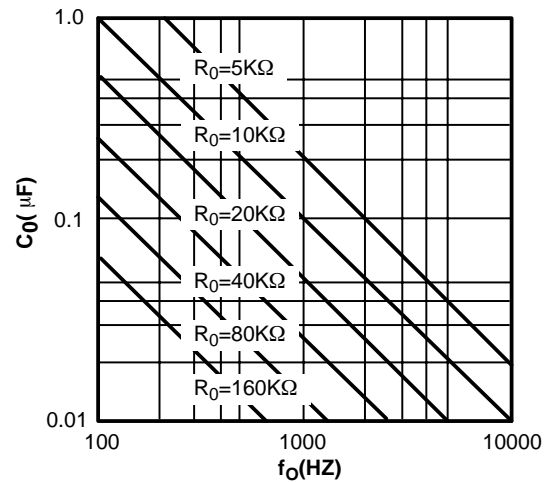

Figure 6. VCO Frequency vs. Timing Resistor
VCO Timing Capacitor (Pins 13 and 14): VCO frequency is inversely proportional to the external timing capacitor, C_0 , connected across these terminals (see *Figure 6*). C_0 must be non-polar, and in the range of 200pF to 10 μF .
- Calculate value of C_0 from design equation (1) or from *Figure 6* $f_S = f_O$: